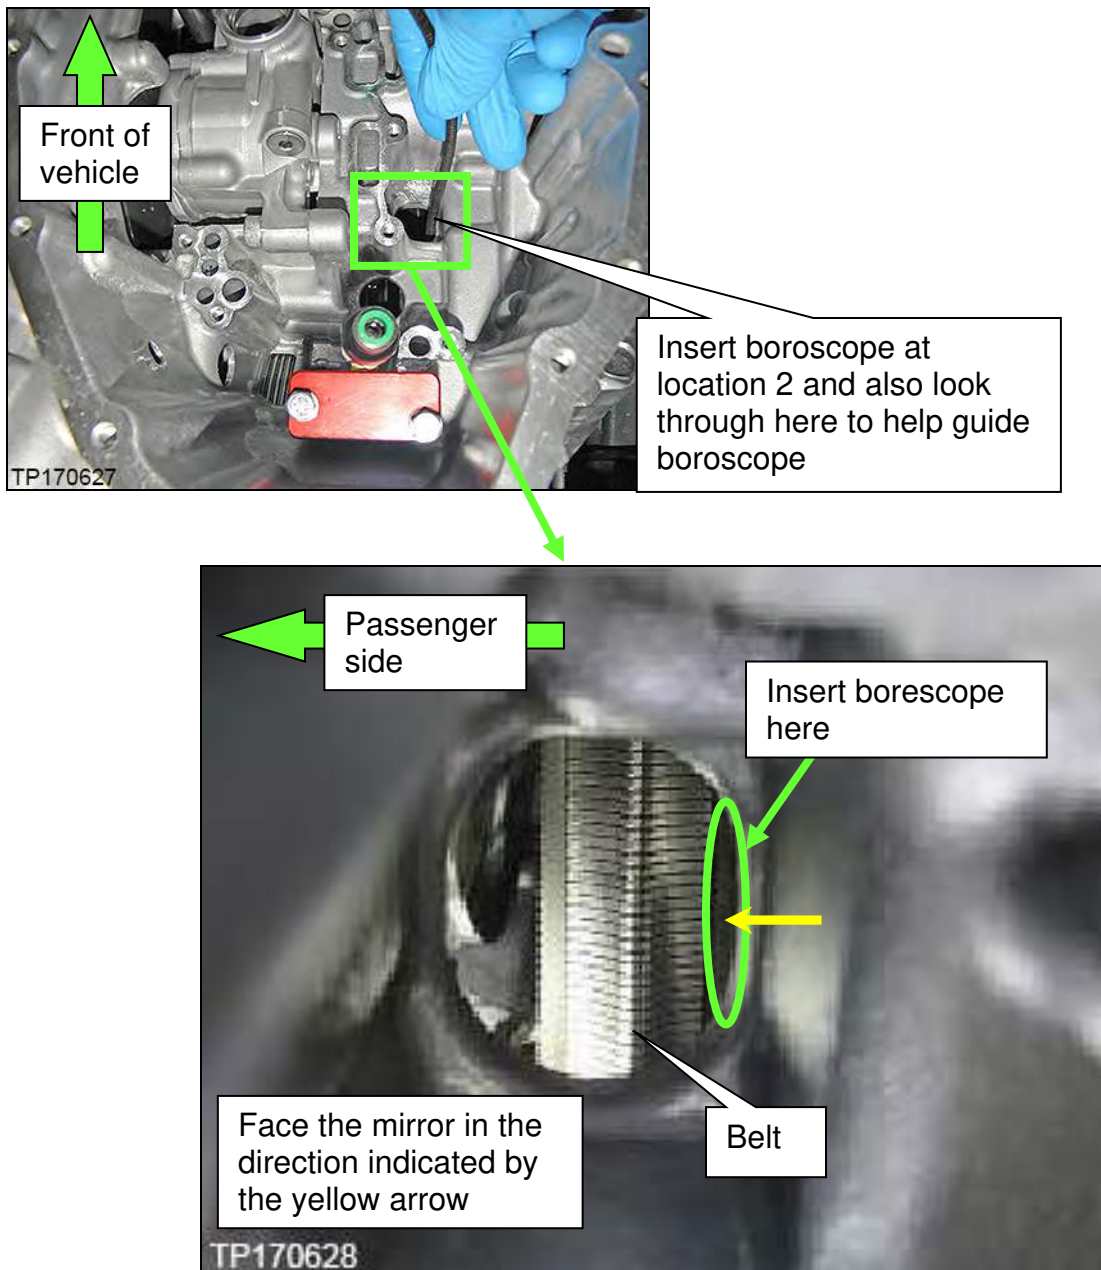

Figure 9C
- III. Insert the boroscope in the second location where shown in Figure 9C.